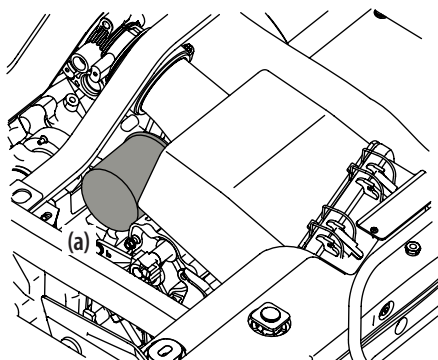

Figure 5-22
- Remove the oil filter (a). See Figure 5-22.